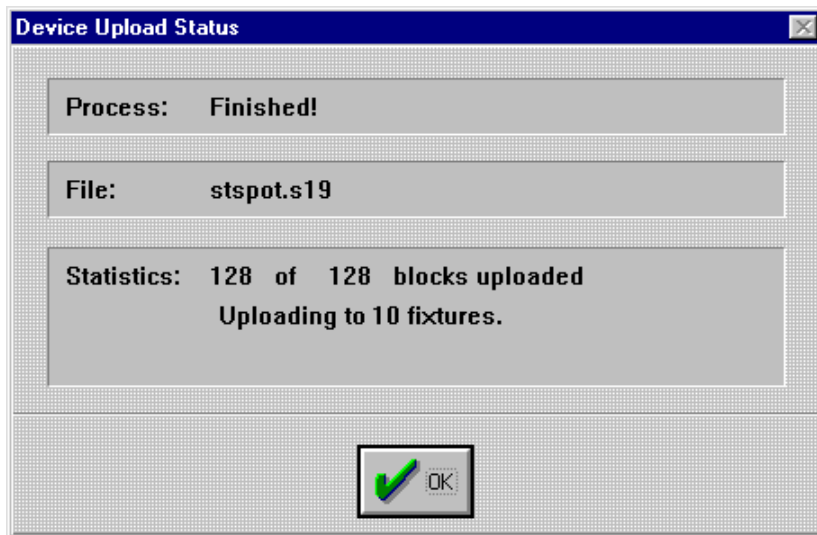

Figure A.5. Device Upload Status Information Window
5. Click the **OK** button to start uploading. This brings up the **Device Upload Status** information box. Refer to Figure A.5. During the upload, the fixture's display will quickly flicker and display `UPLD` to indicate it is uploading. The **Device Upload Status** dialogue box will indicate the number of fixtures that are being uploaded and the progress of the upload.